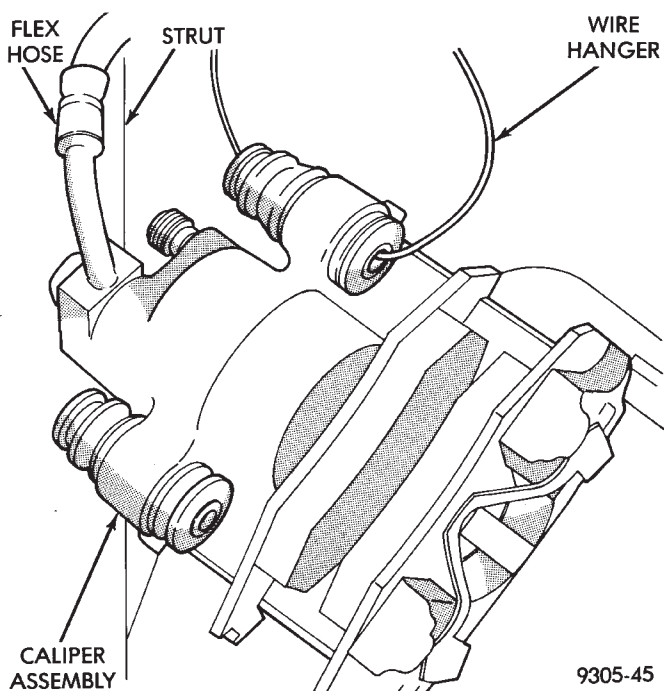
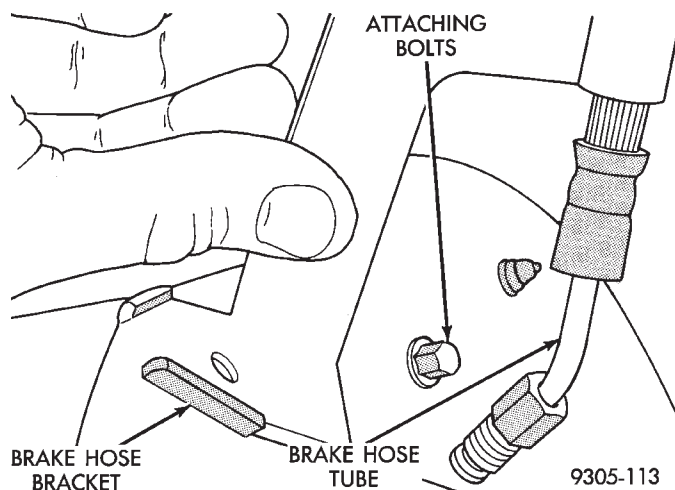

Fig. 1 Storing Rear Caliper Assembly
Fig. 2 Brake Hose Bracket And Tube
(1) Raise vehicle on jackstands or centered on a frame contact type hoist. See Hoisting in the Lubrication and Maintenance section of this manual, for the required lifting procedure to be used for this vehicle.
(2) Remove the rear wheel and tire assembly from the vehicle.
(3) If vehicle is equipped with rear disc brakes, remove the rear caliper assembly from the adapter. Refer to Rear Disk Brakes in Group 5 Brakes of this Service manual for required caliper removal procedure. After removing caliper assembly store caliper by hanging it from frame of vehicle (Fig. 1). Do not let weight of rear caliper assembly hang from flexible brake hose. If vehicle is equipped with rear drum brakes, remove the brake flex hose bracket from the support plate and wheel cylinder (Fig. 2).